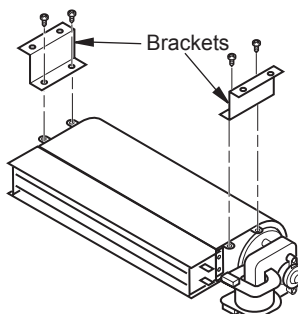

Figure 12 - Removing Brackets from Heater/Blower
6. Remove brackets from heater/blower (see Figure 12). Save brackets and screws.